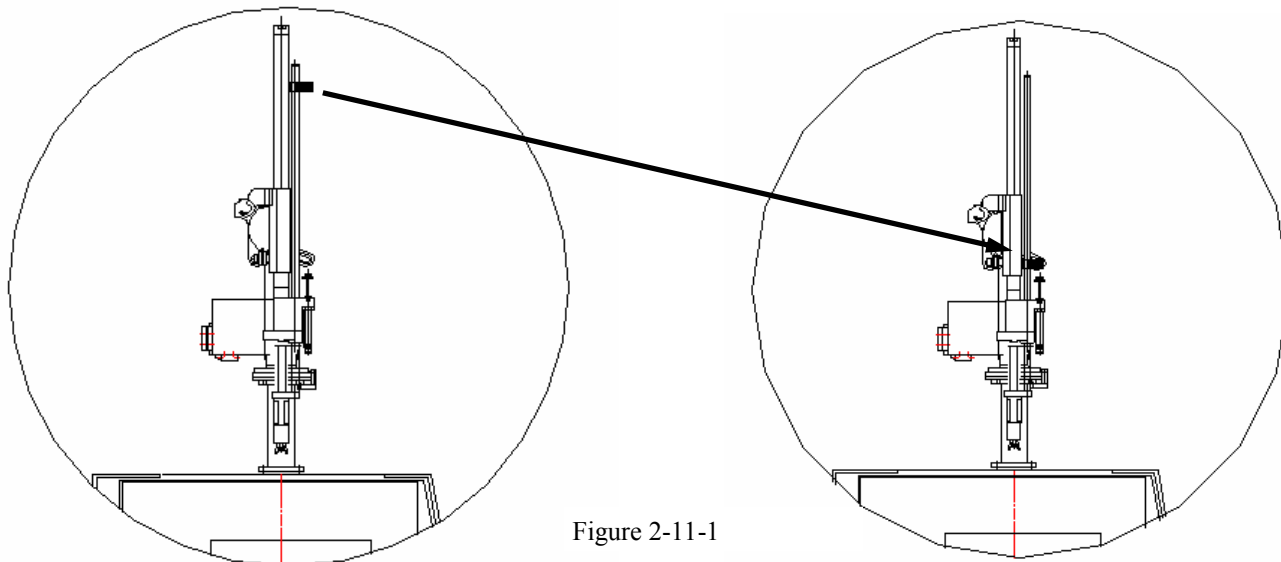

Figure 2-11-1
1. Loosen the cap screws on extension cylinder stop and move stop down to till it touches the shock absorber. Tighten cap screws on the stop. (Figure 2-11-1)